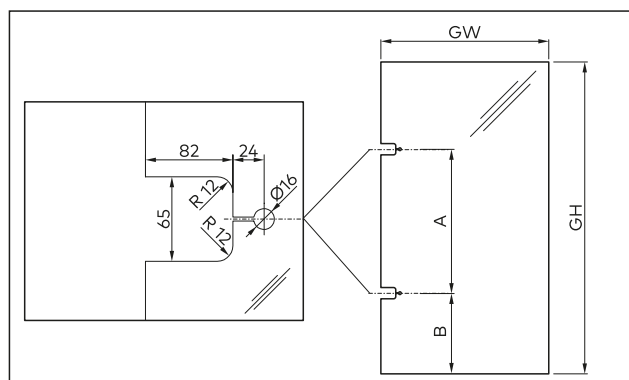

Fig. 44 Glass preparations for the frame with embedded mounting plate
2. Check the dimensions of glass preparation, see Fig. 44 on p. 16.
1. Vertically mark the recesses for the mounting plates in the frame. Dimensions A and B see Fig. 44 on p. 16.